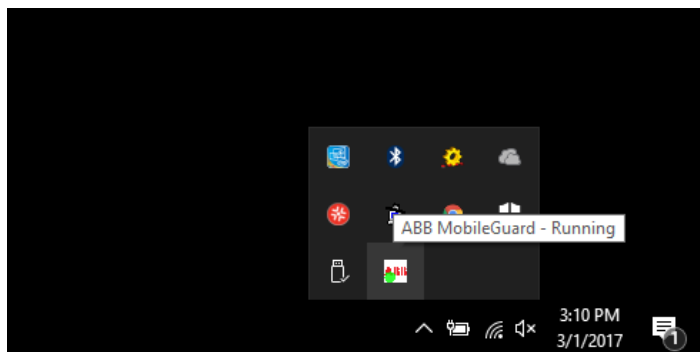

Figure 82 ABB MobileGuard™ Tray Icon
- 3 Ensure the ABB MobileGuard™ Tray icon has a green light and a status that reads *Running* (Figure 82). If the indicator light remains gray, reboot the laptop/tablet.